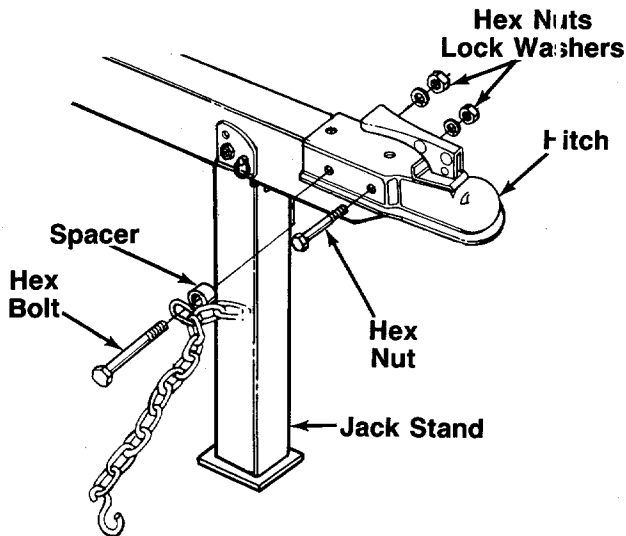

FIGURE 4.
2. Place the hitch in position on the end of the tongue as shown in figure 4. Secure with hardware just removed.